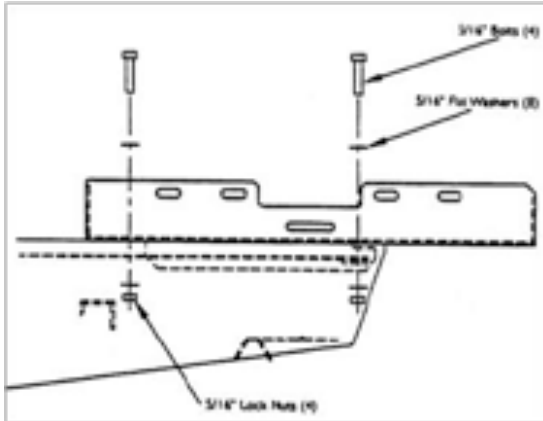

Figure 4a
2. Orient SmartBox[®] cradle as shown (see figure 4a, b, and c).